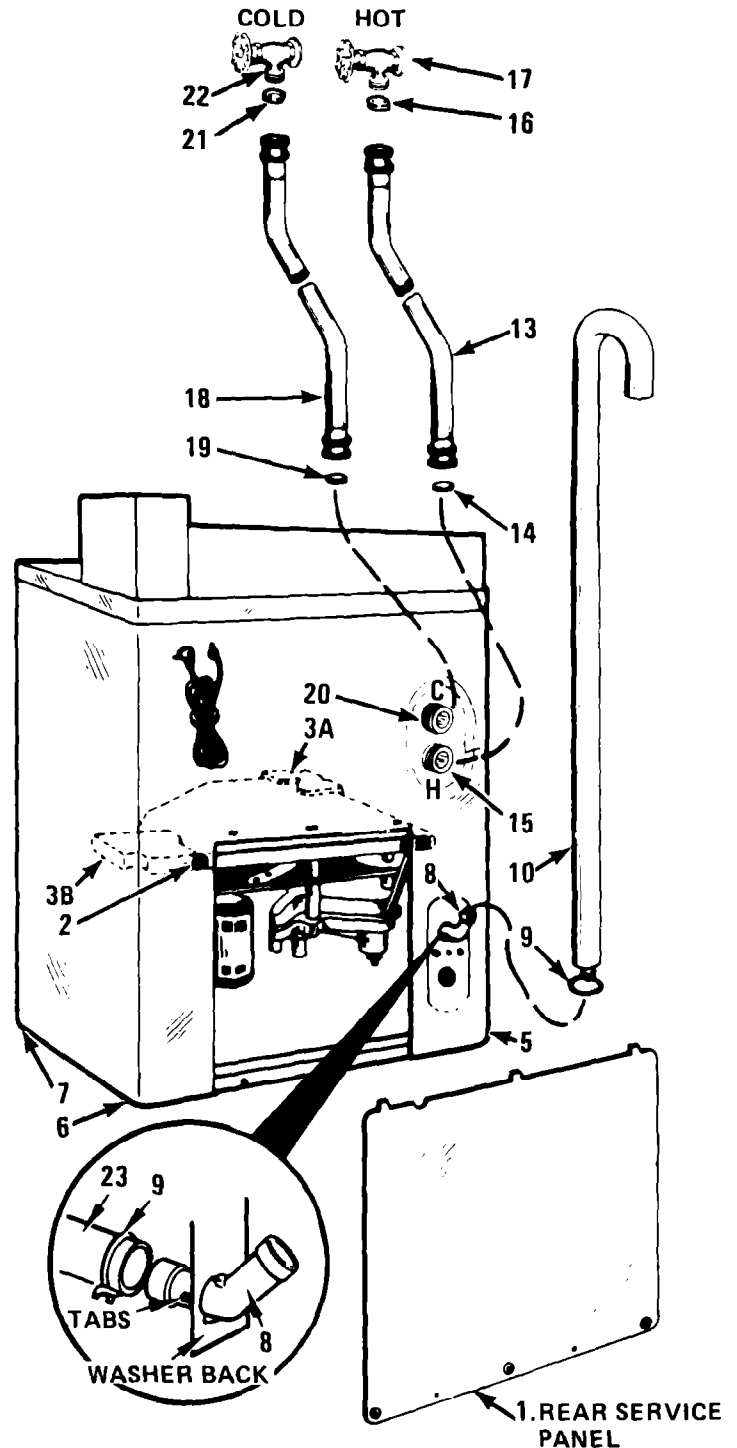
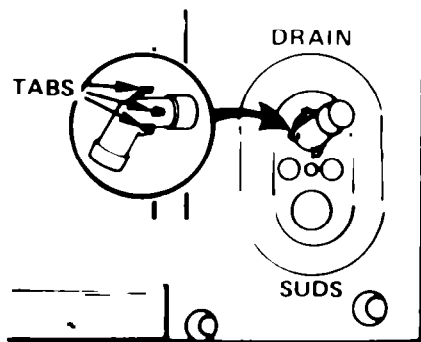

Figure 4
Figure 7
4. Shipping Accessory Removal . . . Rear of appliance (See Figure 4.)
5. Drain Hose Assembly (See Figure 4 & 7)
From the inside, place plain end (no tabs) of the angle connector (8) through the lower hole in cabinet and snap in place. Position the angle connector from outside to face the standpipe. (See Figure 7.) Next, place the smaller hose clamp (9) on the internal drain hose (23) then place the hose on the angle connector. Secure with hose clamp. Place the larger hose clamp (6) on the discharge hose (10) and place on the angle connector. (See Figure 4 & 8.)